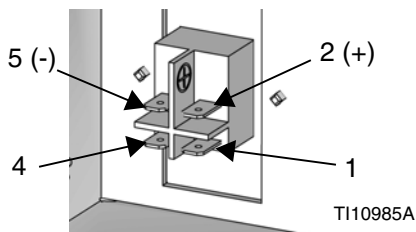
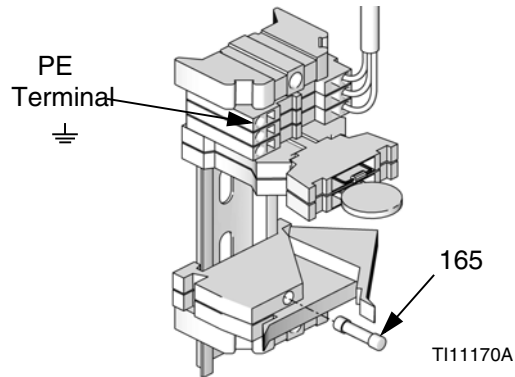

FIG. 37
FIG. 38
2. Mount 24 VDC module (154) on mounting bracket (151).
3. Mount power switch (159) on mounting bracket (151).
4. Attach quick disconnects on cable from 24 VDC module (154) to terminals on power switch (157).
5. Install power supply output cable to CAN cable (163).
- Attach 24 V Class 2 power supply to terminals on the power switch: +24 VDC to terminal 2 (+) and 24 VDC return to terminal 5 (-). See FIG. 37. Attach protective earthing (PE) conductor to terminal marked  $\perp$ . See FIG. 38. The 24 VDC power supply must be capable of supplying at least 1.0 Amp and have supply current protection rated at no more than 2.5 Amps.
- Install cover plate (160), screws (156), and washers (164).